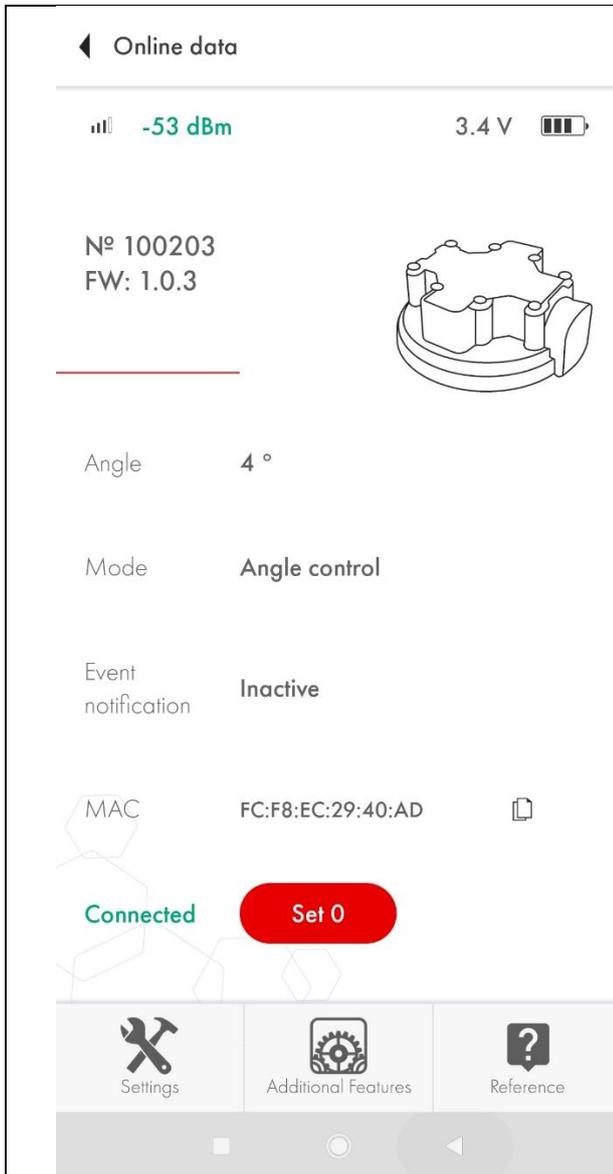

Fig. 9.10. Tap on the **Set 0** to establish the reference point
9. After the sensor is installed on the vehicle's part that is to be monitored in its inactive position (except for the Plow mode – there the sensor must be installed on the moving part in its active position), you need to calibrate its reference point or 0 (horizon). Simply tap on the **Set 0** button (Fig. 9.10.)